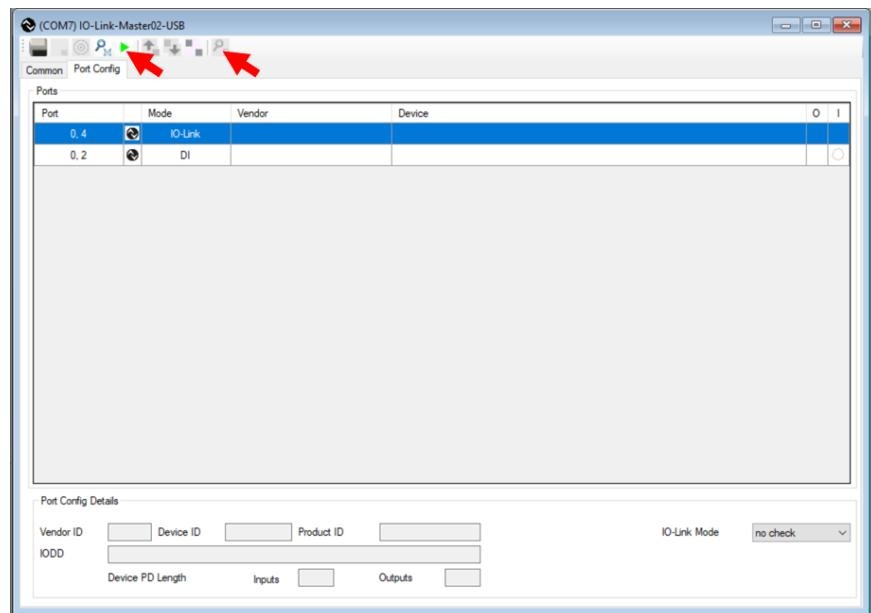

Figure 5. Device detection
- c. Click on the green lecture button and on the loop to run a device detection, see Figure 5.